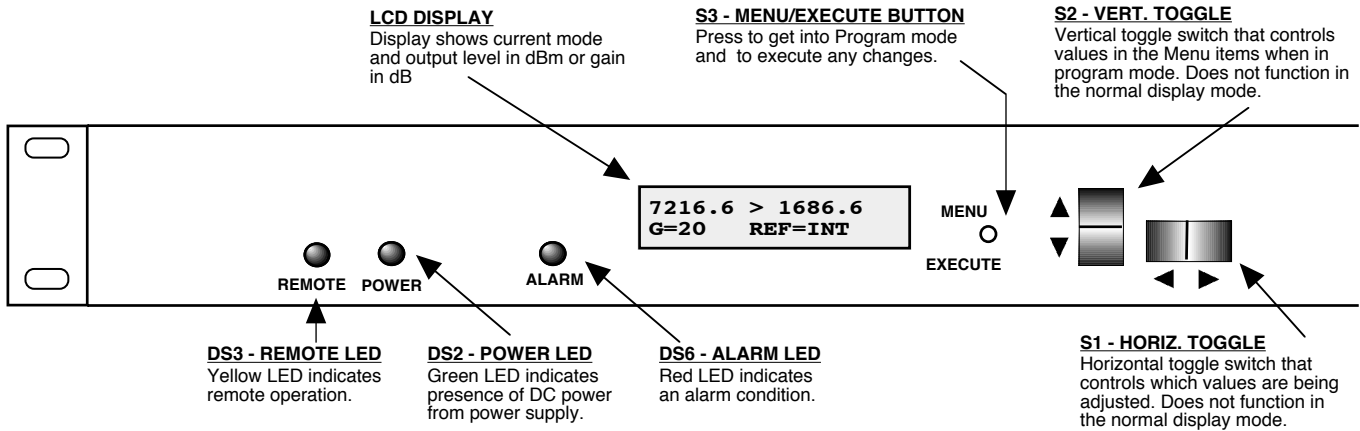

FIGURE 2.2 2083-7216# Front Panel Indicators
Figure 2.2 shows the front panel indicators.
4. Be sure DS2 (green, DC Power) is on and DS6 (red, Alarm) is off (Figure 2.2).
Alarm indications appear on the LEDs (see figure 2.2).